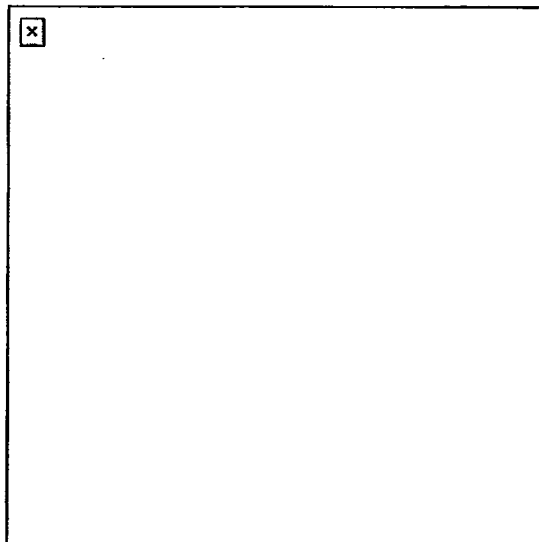

Figure 191-381-1370-1
1. Defend yourself against a front choke (Figure 191-381-1370-1).